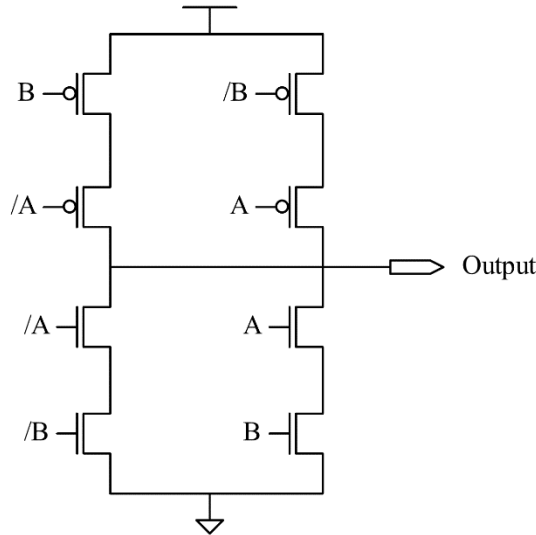

Figure 17. XOR2 gate
- b) Figure 17 is the schematic of XOR2 gate. This gate has 12 transistors. Figure 17 requires two inverters to generate $\neg A$ and $\neg B$ from input A and B.